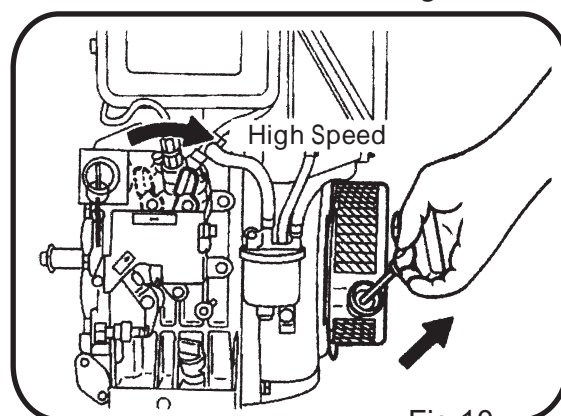
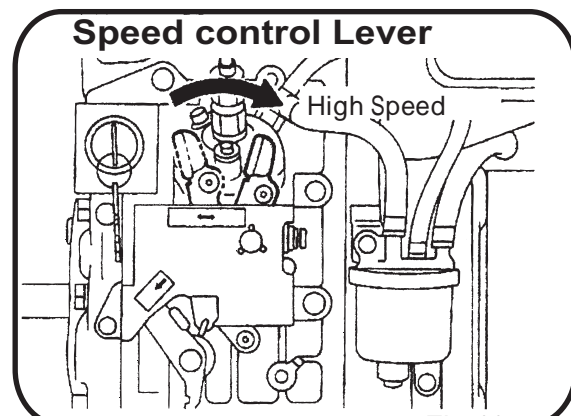

Fig.10
Fig.11
- 1 Discharge air from fuel system. (Fig 10)
- (1) Set the speed control lever to the "HIGH" speed position.
- (2) Pull the recoil starter slowly two to three times. The air will be discharged automatically.
- 2 Set the speed control lever at the START position (High Speed). (Fig.11)